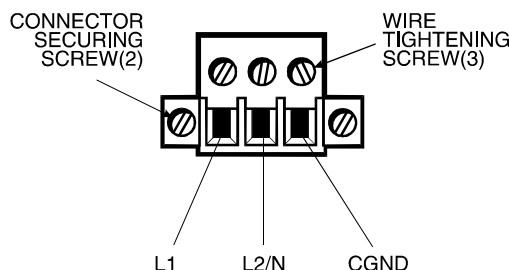

Figure 3-21. AC Power Connector
2. Cut the hole according to the cutout dimensions in Figure 3.20 or Figure 3.21.